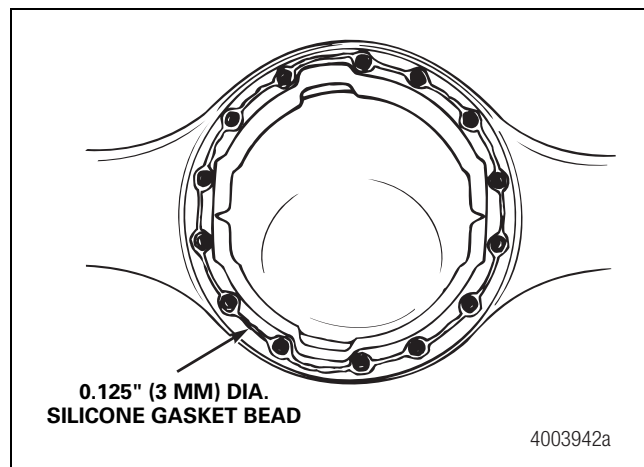

Figure 2
4. Apply a 0.125-inch (3 mm) diameter continuous bead of Loctite® Ultra Grey Flange Sealant 5699, Meritor part number 2297-Z-7098, around one surface. Also apply the gasket material around the edge of all fastener holes on that surface. Figure 2.